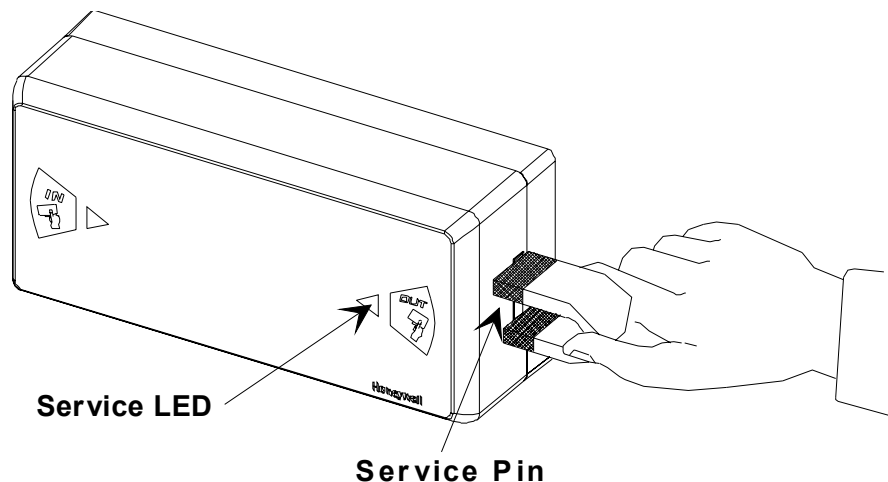

Figure 29. Activation of the Service Pin by Means of a Magnet
To identify the node, you can call the service pin by means of a relay-reed located inside the unit (see Figure 29). This procedure consists of the following steps:
1. Position a small magnet, as illustrated in Figure 29, to activate the service pin. This signal is linked to the yellow service LED, which flashes throughout the node configuration procedure.